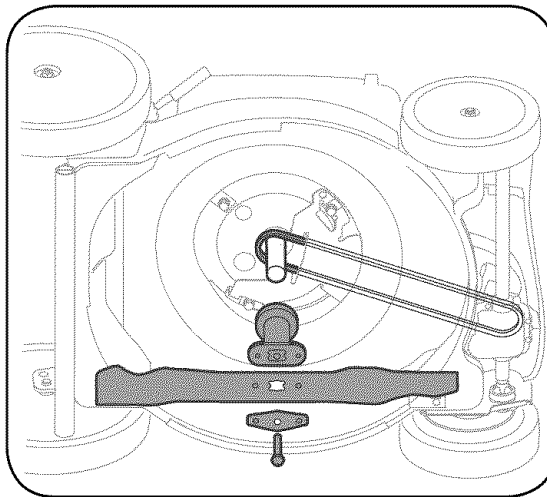

Figure 5
2. Remove bolt, blade bell support, blade, and blade adapter from the engine crankshaft. See Figure 5.